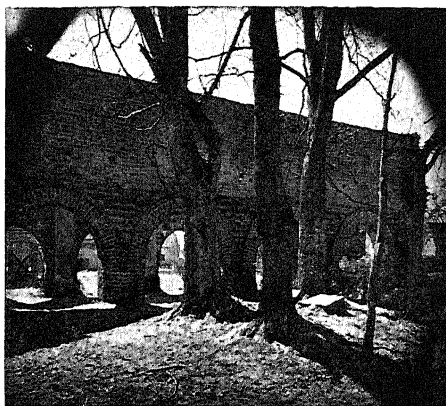

Fig. 28.—Part of Picture cut off by use of a Wide-angle Lens.
2. When a wide-angle lens is used, the light rays fall upon the plate at such an angle that a similar effect may be produced (Fig. 28). To